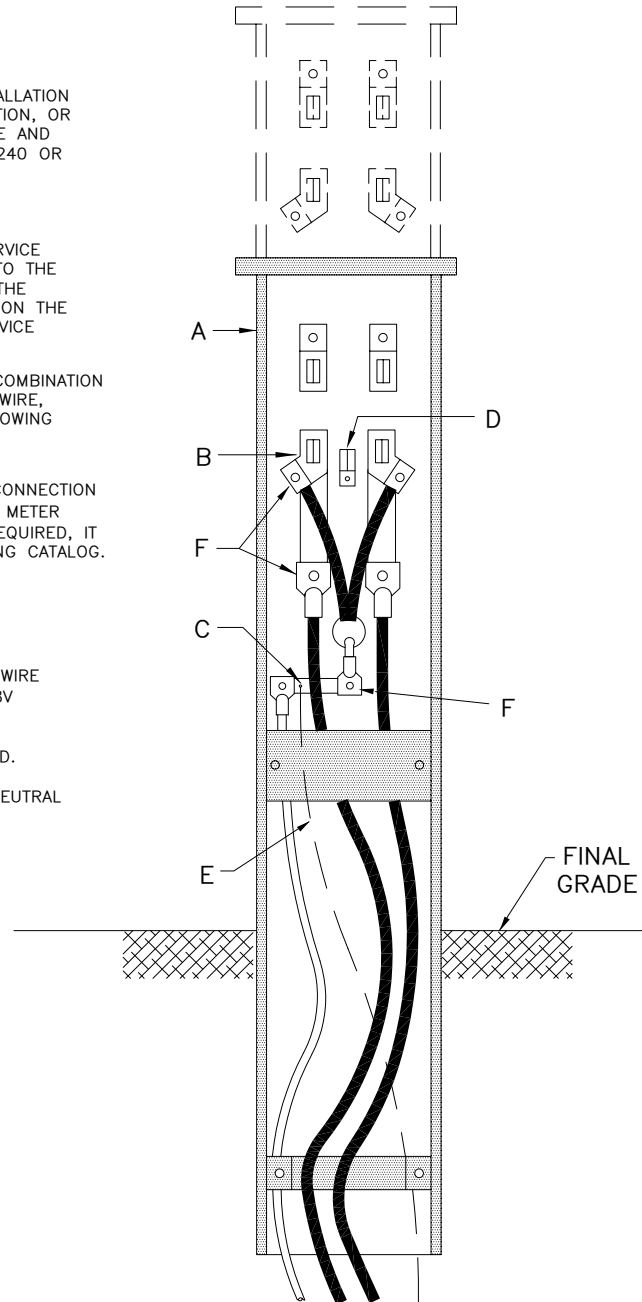

FIGURE 1
2. FOR THE INSTALLATION OF SINGLE OR DOUBLE POSITION COMBINATION METER CONNECTION DEVICE AND RACEWAY, 1-PHASE, 3-WIRE, CUSTOMER TO FURNISH, INSTALL AND MAINTAIN THE FOLLOWING EQUIPMENT (SEE FIGURE 1):